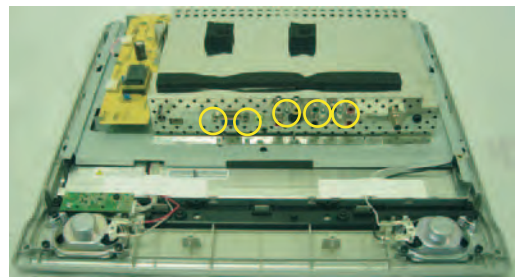

Fig.5
- c. Remove the 5 screws as Fig.5 , then remove the Main shield assy.